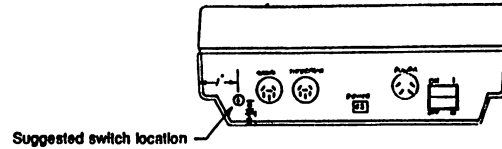

Figure 3: SUGGESTED SWITCH LOCATION
19. Drill a 1/4" hole in the 1541-II case assembly to accommodate the JiffyDOS ROM selector switch. A suggested switch location is given in Figure 3 below.